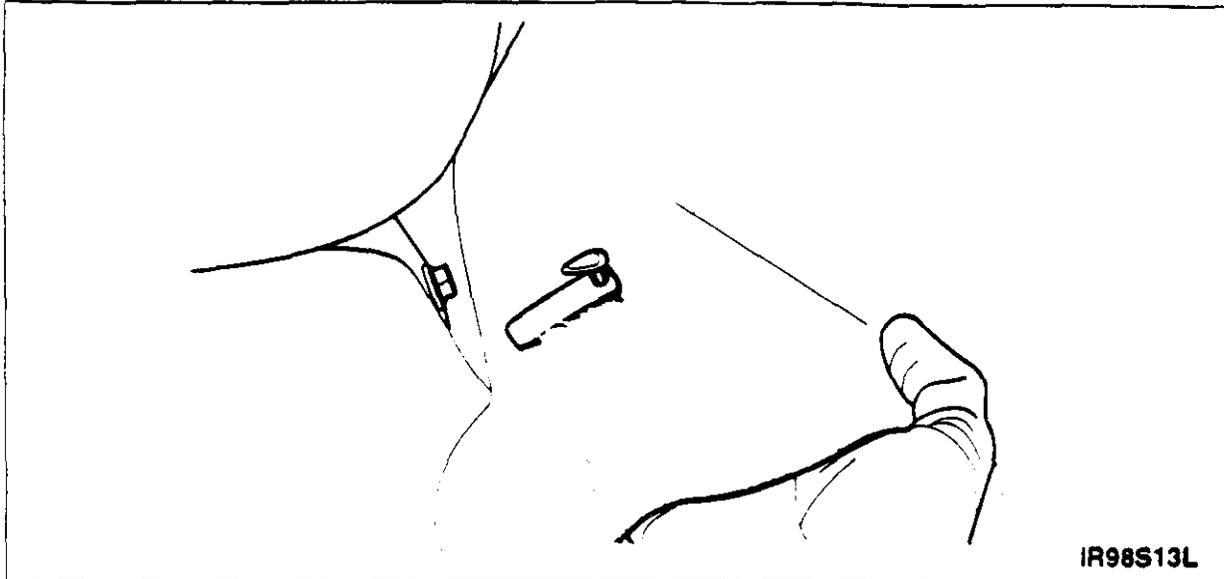

FIGURE 17
33. Slide hand under carpet, then secure upper and lower portions of clip together. See Figure 17.